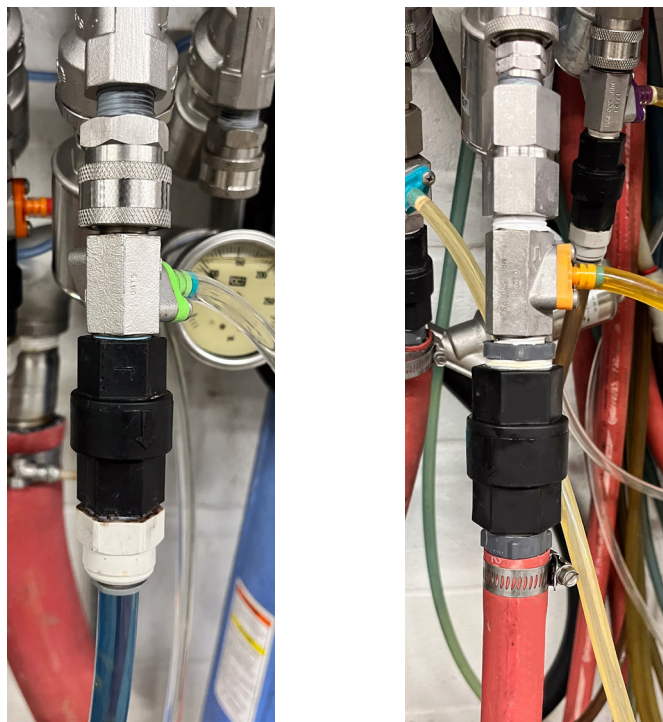

Fig. 3.2.4 - 1 - Liquid connection to Standard Flow (left) and High Flow (right) injector port
1. Connect 1/2" poly tube (Standard Flow injector) or 3/4" Boston hose (High Flow injector) liquid lines to the appropriate injector port as specified in your customer configuration form (Fig. 3.2.4 - 1).